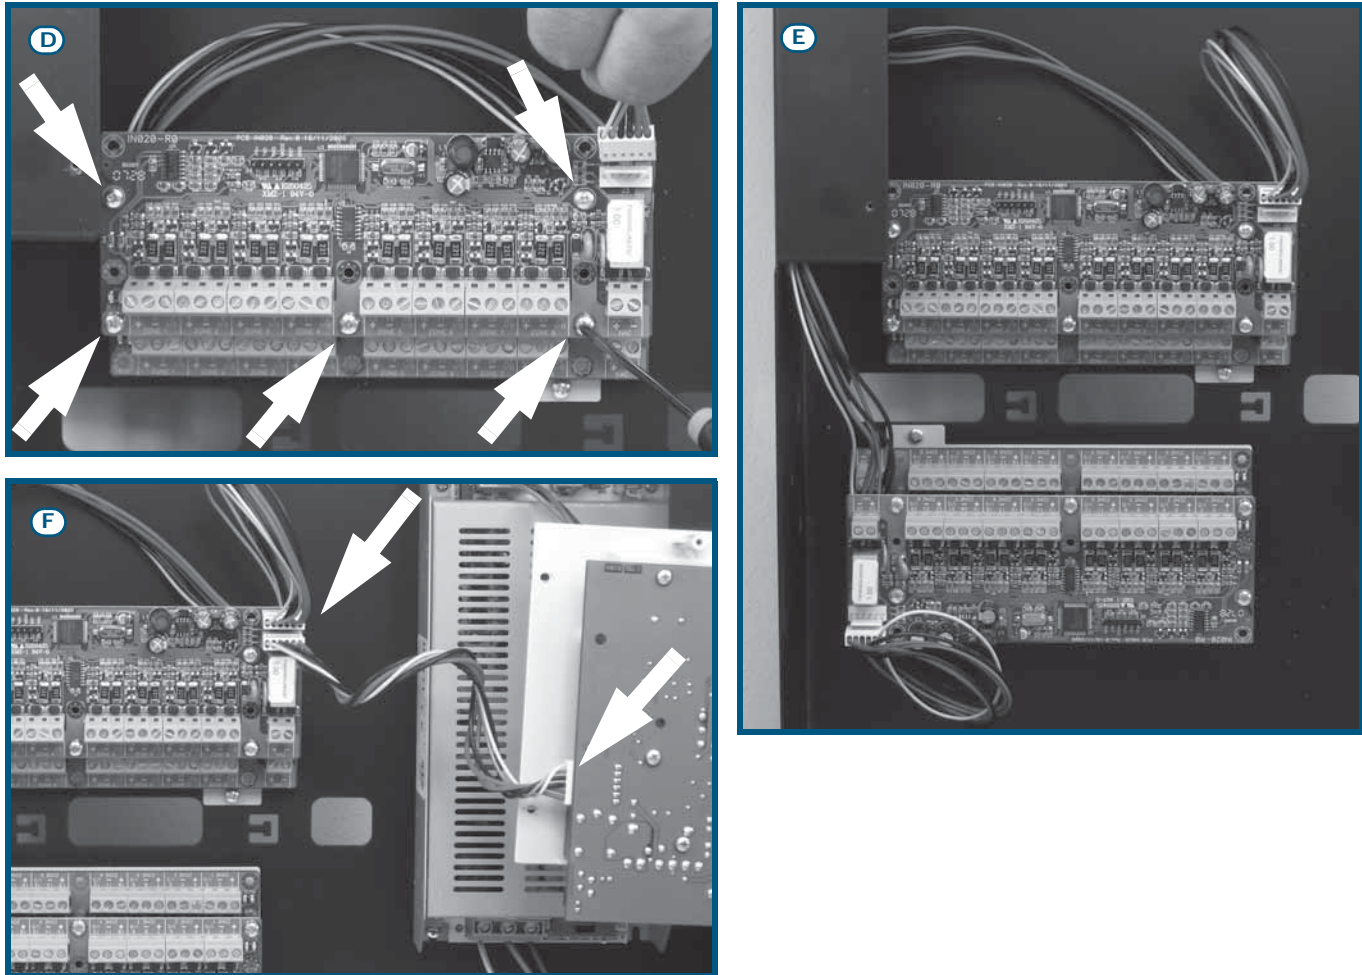

Figure 12 - Mounting the expansion board - 2
6. Locate the second expansion board on the metal spacers (*Figure 12 - [D]*).
10. Connect the third board to the second (*Figure 12 - [E]*).
11. Using the respective connector, connect the first board to the control panel motherboard (*Figure 12 - [F]*).